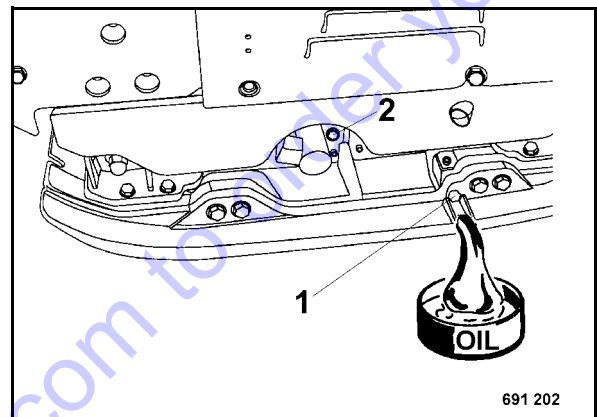

Fig. 67
- Unscrew fastening screws 1 (Fig. 67).
- Unscrew vent plug (2).